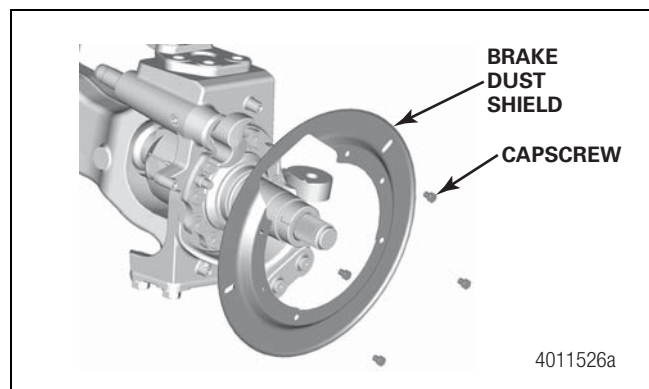

Figure 7.14
11. Place the brake dust shield into position on the spindle and install the four mounting capscrows. Tighten to 35-50 lb-ft (47-68 N•m). Figure 7.14.